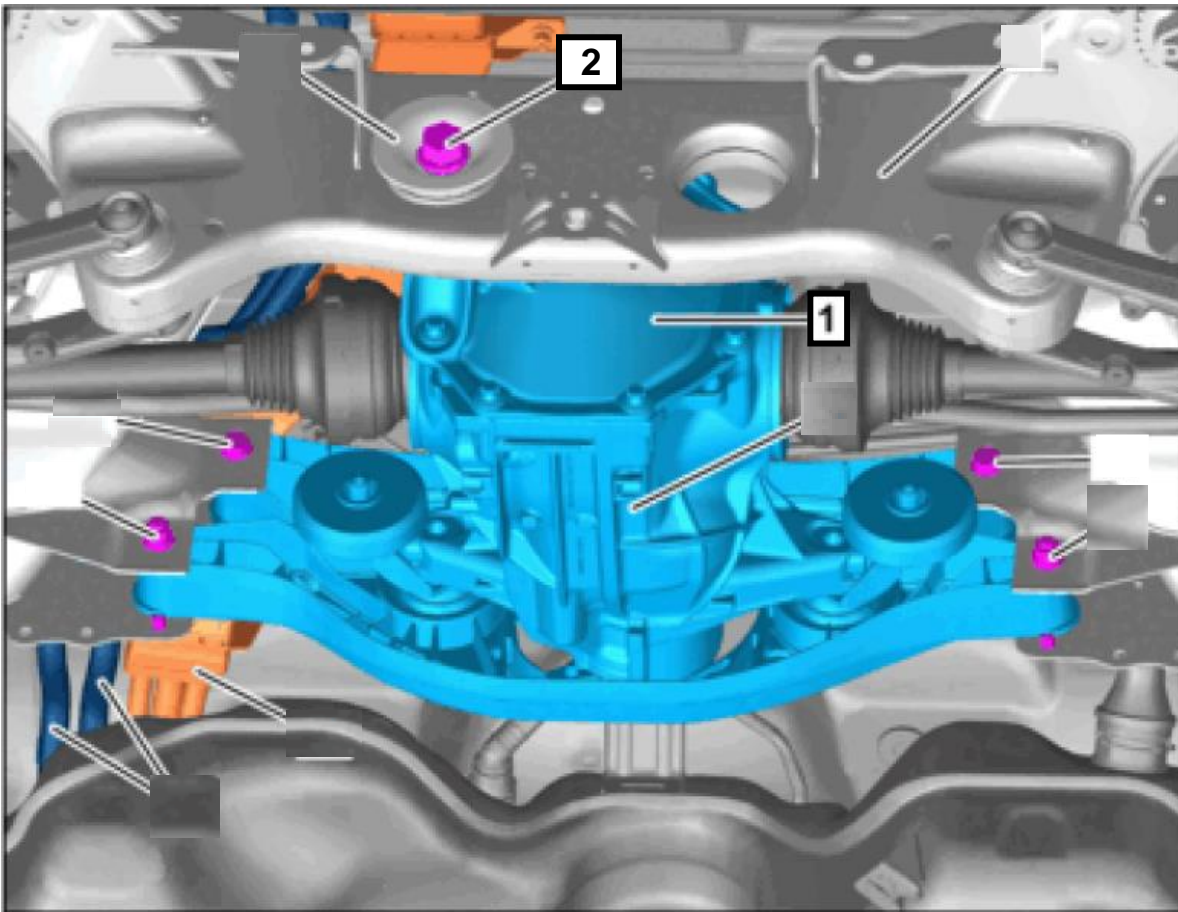

Figure 1
1. Replace rear axle differential end cover (**Figure 1, 1**).
i The rear axle differential **screw** to the rear cross brace (**Figure 1, 2**) must always be **replaced**.